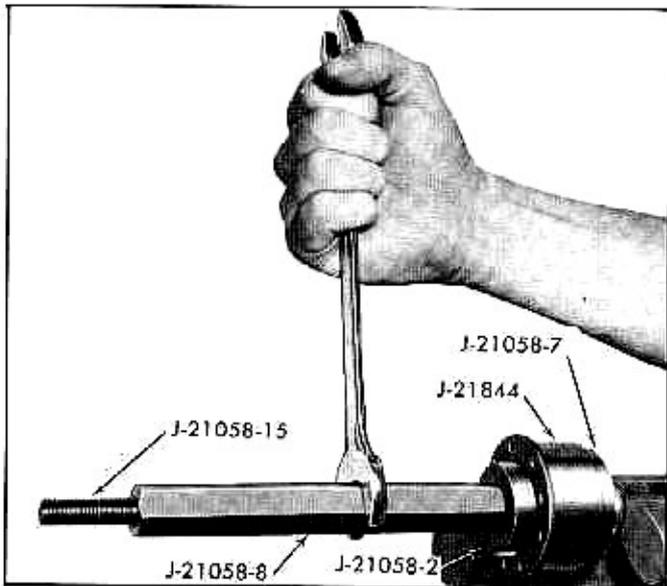

Fig. 14—Removing and Installing Rear Bearing
1. Using J-21058 and J-21844 pull the rear bearing out of rotor ring (fig. 14).
2. Using J-21058 and J-21844 pull the rear bearing into rotor ring until bearing is $1/32$ " beneath the rotor ring surface (fig. 14). Pull on lettered end of bearing.